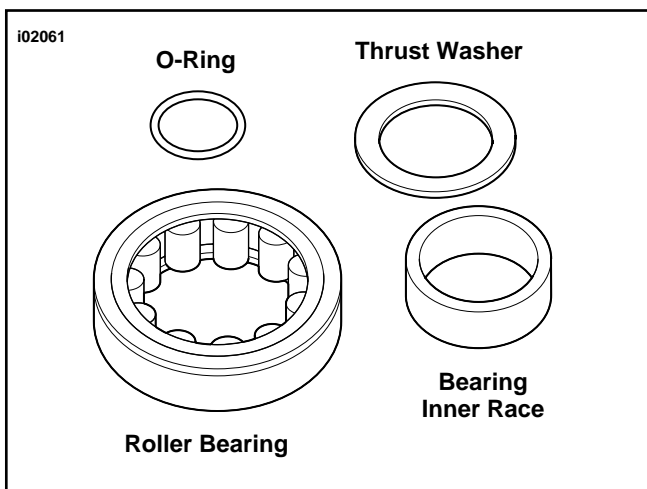

Figure 1. Rear Cam Roller Bearing Kit (P/N 8983)
1. See Figure 1. Install **new** Rear Cam Roller Bearing (P/N 8983) according to the following: